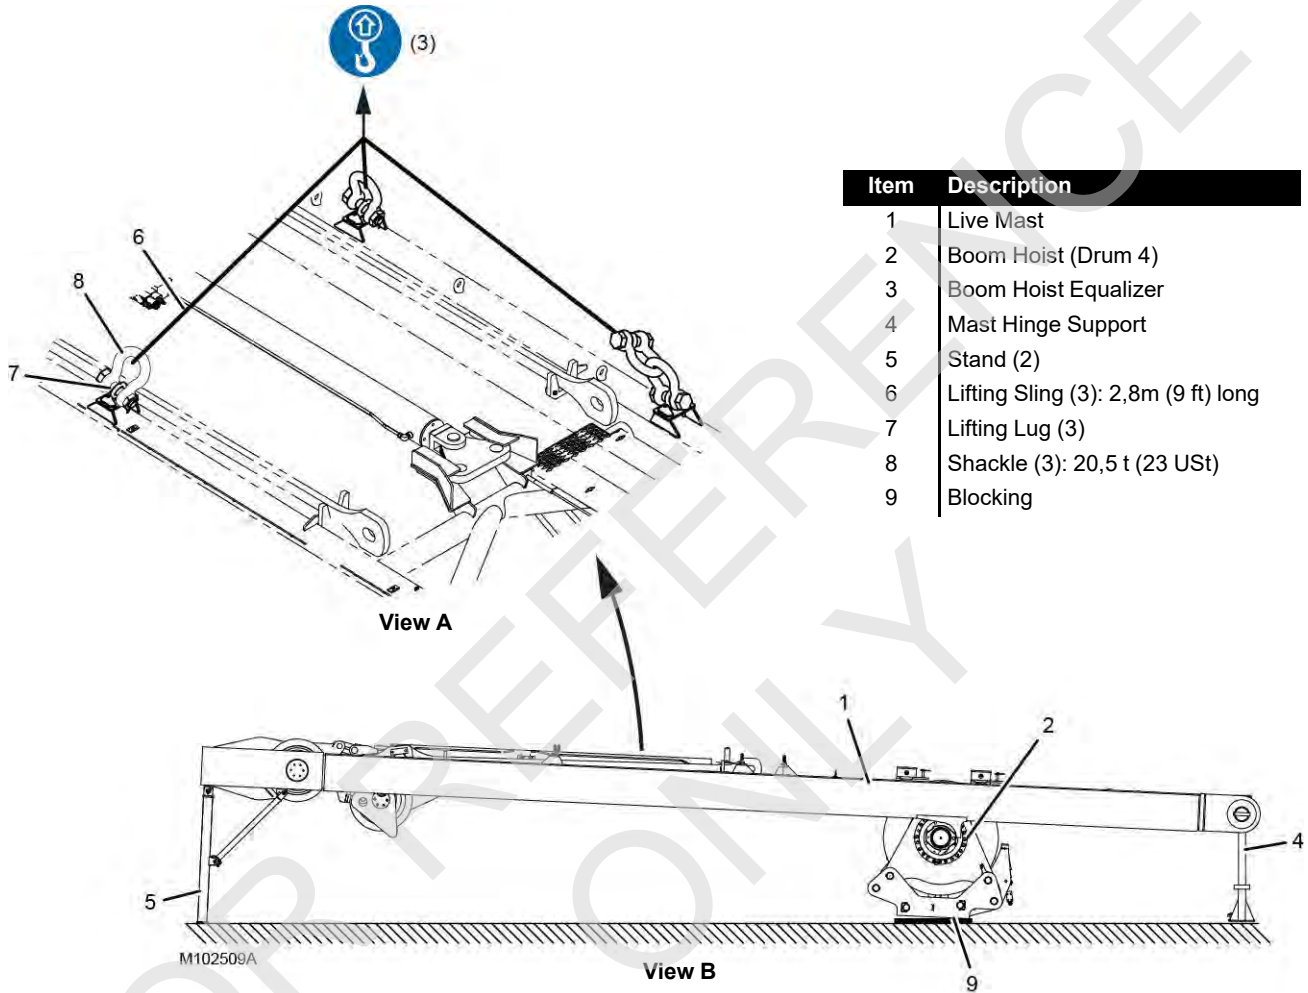

Figure 4-100
- Lift only with the specified rigging at the locations shown in Figure 4-100.